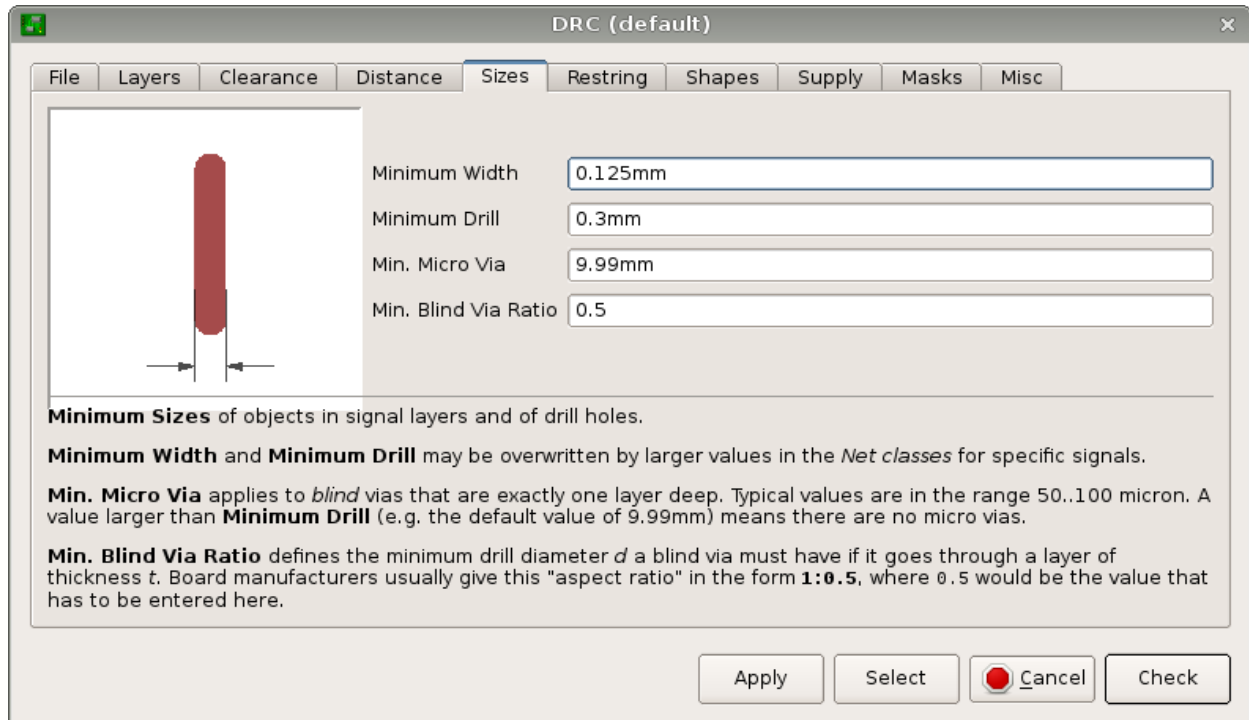

Figure 37: DRC dummy layer sizes
2. Change into section “sizes” and enter the minimum line width as shown in Figure 37.